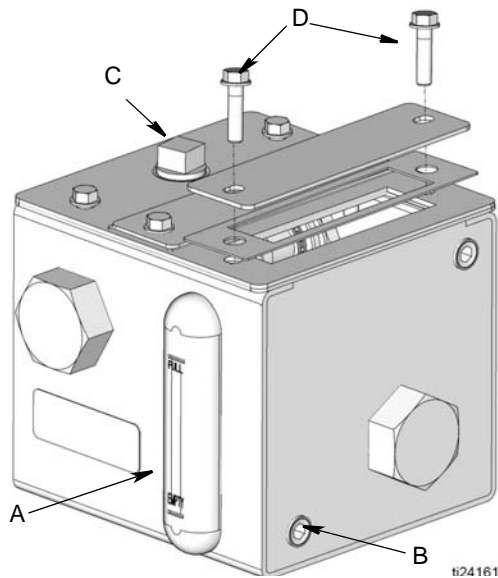

FIG. 1
The reference letters used in the following instructions, refer to FIG. 1.
- a. Drain reservoir by removing drain plug (C) (FIG. 1). Dispose of oil according to all applicable safety regulations.
- d. Replace pumping units. Torque mounting screws (F) (FIG. 1) to 110 in. lbs \pm 10 in. lbs. (12.43 N.m \pm 1.13 N.m).
- e. Apply thread sealant (user supplied) to drain plug (C) (FIG. 1) and replace. Torque to 35 in. lbs \pm 5 in. lbs. (3.95 N.m \pm 0.6 N.m).